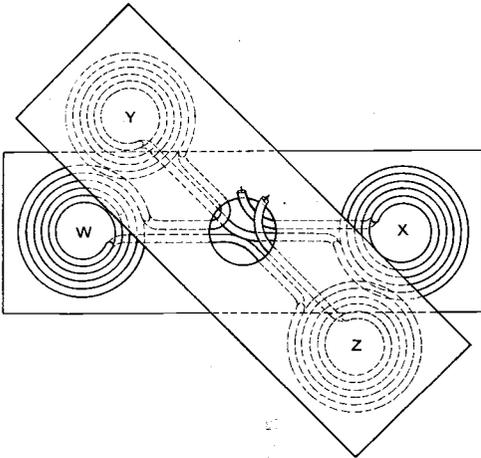

Fig. 10. A simple variometer which provides the means of obtaining a larger inductance change than is possible with an arrangement such as Fig. 4.
(D) To obtain a greater variation in inductance than is possible with the arrangement described in section (A), page 83, October 17th issue, we may wind four coils and connect them in series (or parallel, of course) as in Fig. 10. Coils W